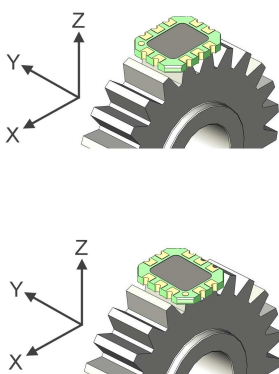
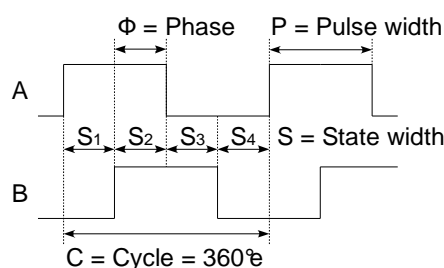

Fig. 1 Coordinate system XYZ.
Fig. 2 Encoder output signals A and B in quadrature.
The ID4501G incremental encoder kit consists of an encoder and a gearwheel (Fig. 1). The encoder is an integrated circuit in a PCB housing in SMD-format. It provides incremental A and B output signals in quadrature (Fig. 2). The gearwheel is in ferromagnetic steel and has a module 0.5. The orientation of the encoder is selected in Table 1.
- Airgap Distance between encoder and gear in Z-direction. See Fig. 1.
- Cycle One A quad B period, see Fig. 2.
- Phase shift Φ Number of electrical degrees between the center of the high state of channel A and the center of high state of channel B. Nominal 90°. Fig. 2.
- Pulse width P Number of electrical degrees that an output is high during one cycle. Nominal 180°. Fig. 2.
- State width S Number of electrical degrees between two neighbouring A and B transitions. Nominal value is 90°. See Fig. 2.